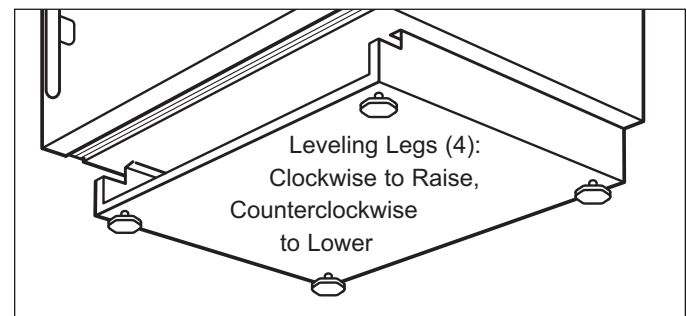

Figure 2-4. Leveling Legs
2. Turn each leveling leg clockwise to raise unit, counterclockwise to lower unit (See Figure 2-4).